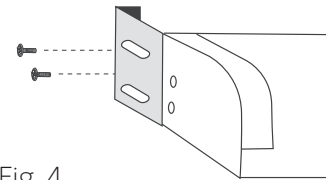

Fig. 4
- Install the Valance Bracket with screws (fig. 4).